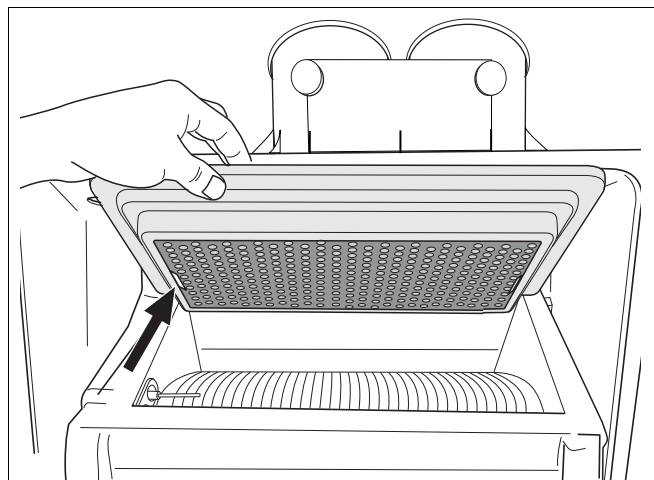

fig. 79 Installing the burner
- Install the new burner (see fig. 79).
Fit the burner so that the scale mark is located on the left-hand side (see fig. 79).